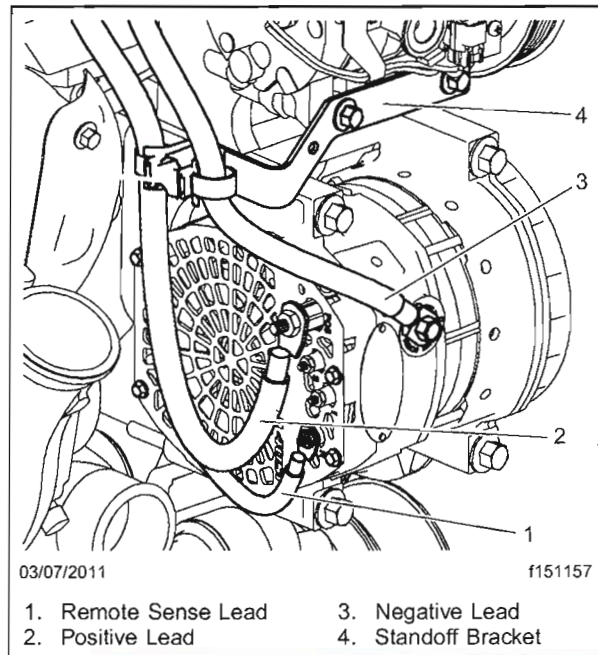

Fig. 1, Original Harness Installation
5. Remove the wire-ties for the remote sense wire harnesses up to and including the first charging cable standoff at the rear of the alternator. See **Fig. 1**.
8. Disconnect the positive and negative leads from the alternator. See **Fig. 1**.